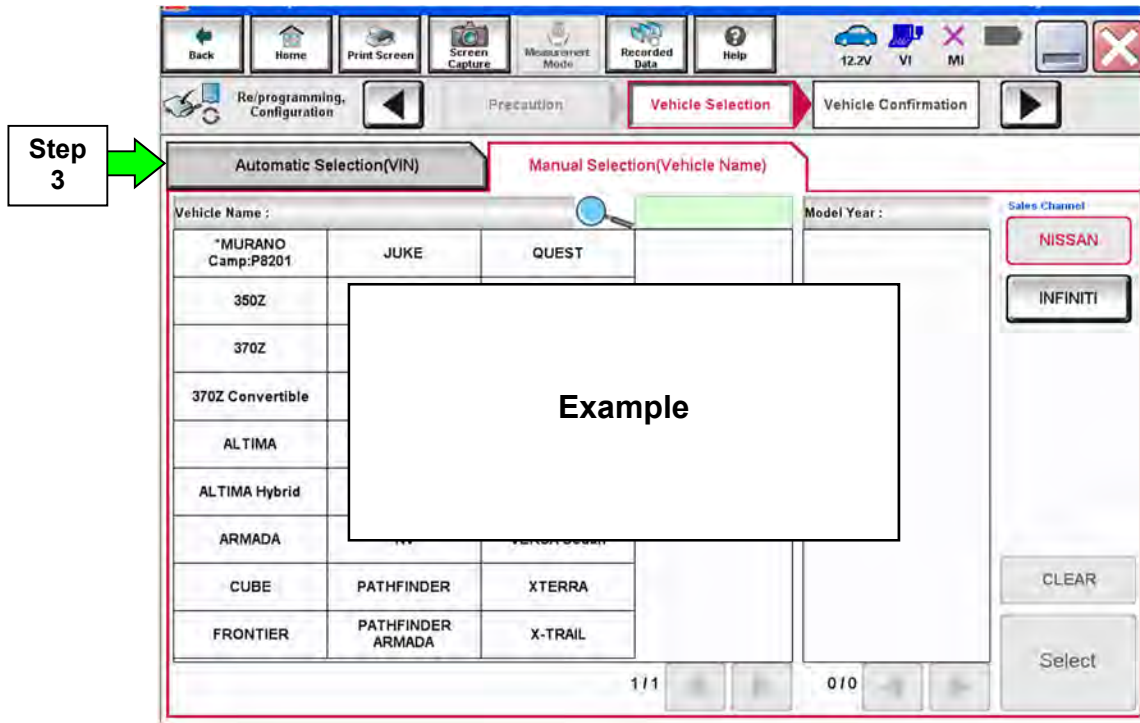

Figure 12
- If the screen in Figure 12 does not display, skip to step 4.